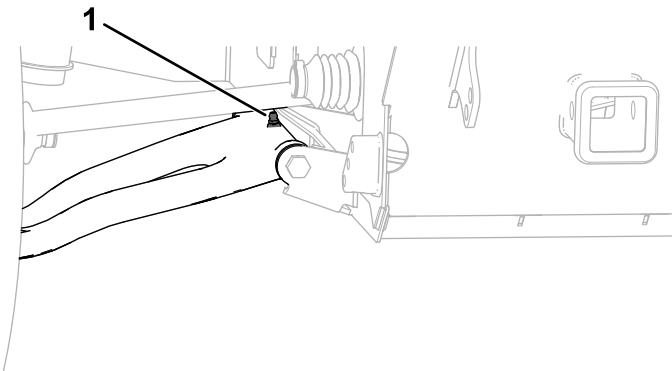

Figure 54
- **Front control arm pivots (2);** refer to Figure 54